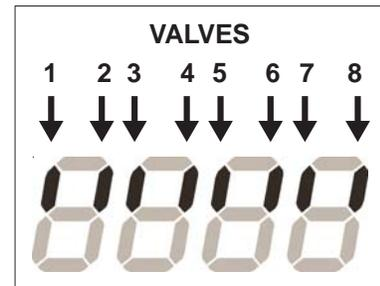

Figure 2-1. Valve indication in DATA display
VALVE MODE (15) – The eight solenoid valves are activated based on selecting desired valves, using right DATA push button to select valve (1 to 8) to change and left DATA push button to toggle the selected valve on or off. Programmed valves will be indicated by the VALVE indicator LEDs on bottom right of Control Panel, as well as 7-segment LEDs of DATA display. Each vertical segment on upper row represents each valve 1-8 (Figure 2-1). Once all desired valves are programmed, press ENTER to save the setting. Upon pressing ENTER, the VALVE code (Table 2-1) will flash twice in the middle two digits of DATA display.